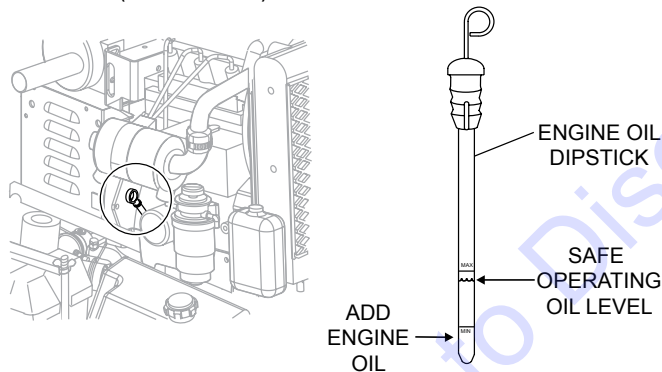

Figure 6. Engine Oil Dipstick
2. Determine if engine oil is low (Figure 6), add correct amount of engine oil to bring oil level to a normal safe level. (See Table 4).